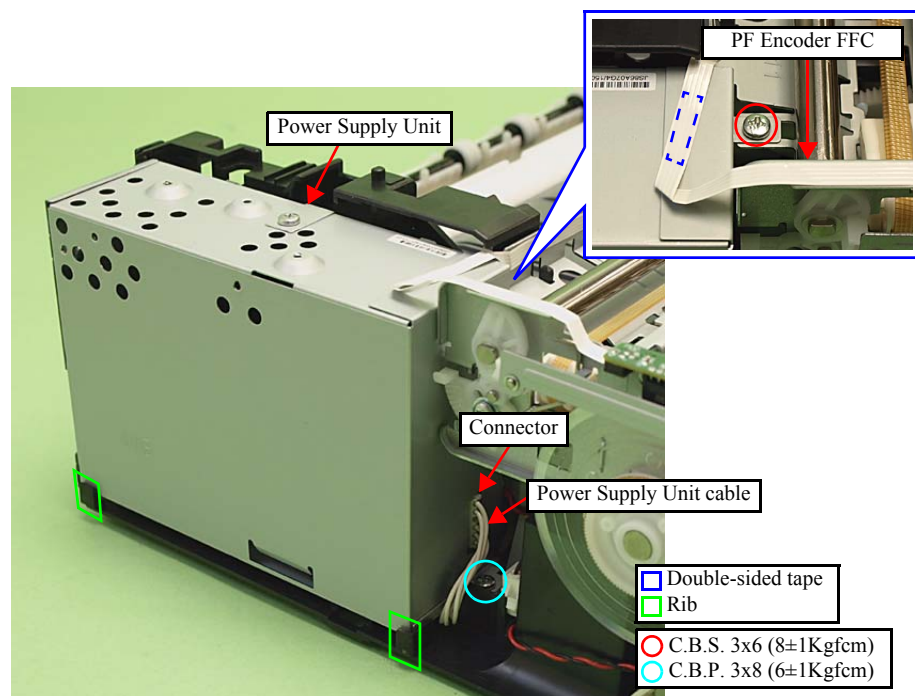

Figure 4-49. Removing the Power Supply Unit
1. Peel off the PF Encoder FFC from the Power Supply Unit. (See Fig. 4-49.)
2. Disconnect the Power Supply Unit cable from the connector of the Power Supply Unit. (See Fig. 4-49.)
- Install the Power Supply Unit inside the ribs (x2) of the Base Frame. (See Fig. 4-49)
- Be careful not to damage the Power Supply Unit cable by catching it with the screw when screwing. (See Fig. 4-49)
- Secure the PF Encoder FFC to the Power Supply Unit with the double-sided tape. (See Fig. 4-49)